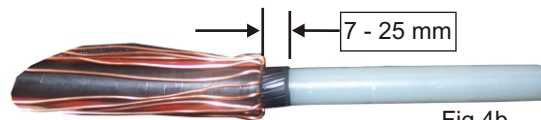

Fig.4b
- If additional screen must be removed, the WS76 tool has the ability to shave semi-con to within 7mm of the stripped cable jacket by using the reversing feature. (Fig.4b)